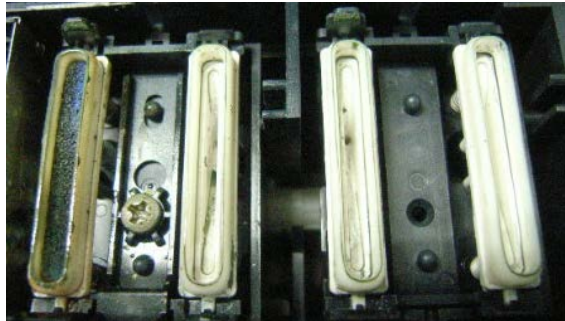
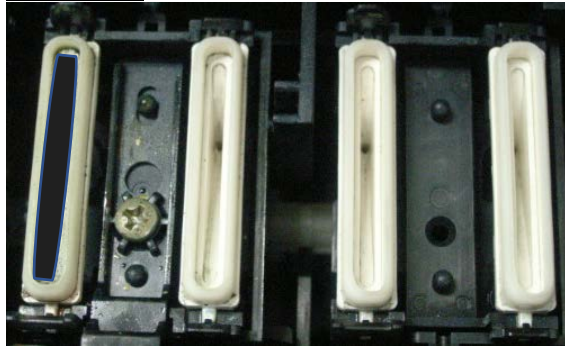

Fig. 4 Before
Fig. 5 After
Step 5 Fig. 4 shows an example before cleaning, and Fig. 5 shows an example after cleaning. Dirt to the level of the example after cleaning.
See Fig. 4 and Fig. 5 for the figures before and after cleaning. Wipe off any excess cleaning liquid with a dry applicator if necessary.